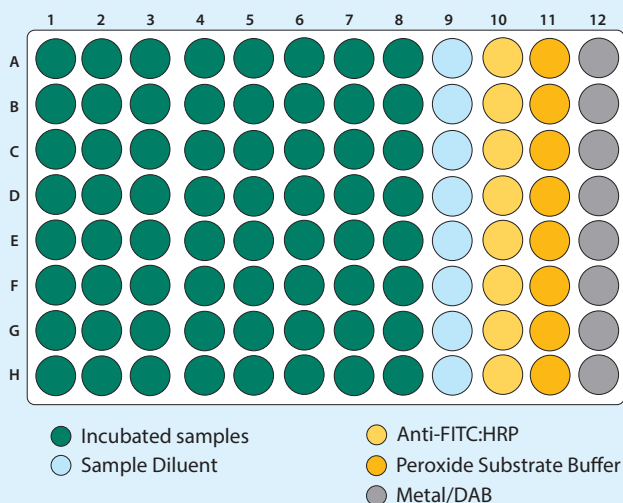

FIGURE 3: Sample 96-well plate map for use in Octet QK/RED systems.
NOTE: the maximum number of samples that can be run in a 96-well plate is 64 on the Octet QK^e or RED96 systems (see Figure 3) and 96 on the Octet QK384, RED384 or HTX systems.
- After the sample incubation is complete, remove the plate from the shaker and add reagents in each well as necessary. Array the reagents in columns (single columns for the 8 channel Octet QK^e and Octet RED96 systems, duplicate columns for the Octet QK384/RED384/HTX systems). Reagents can be placed in any column. Figure 3 depicts a plate set up to be used with the Octet RED96 system, having reagents in columns 9–12.